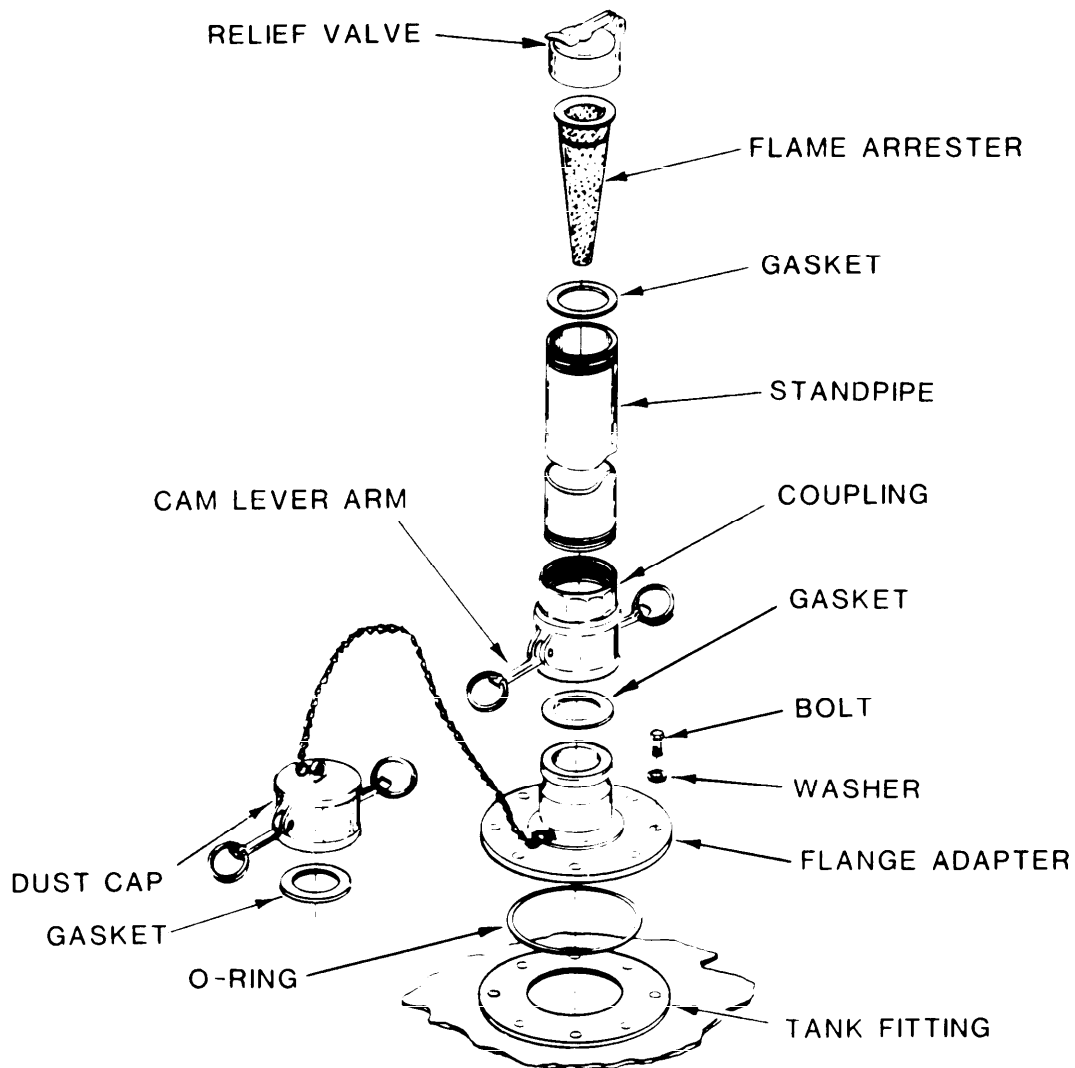

Figure 1-2. Vent and Pipe Assembly
- b. Vent and Pipe Assembly (See Figure 1-2) . The vent and pipe assembly is attached to the top center of the tank envelope using a 2 inch quick-disconnect coupling. The assembly uses a relief valve to vent air and fuel vapor during filling operations. The assembly also removes vapors during normal fuel storage and prevents air from entering the tank. The absence of air causes the tank to collapse as fuel is dispensed or drained.